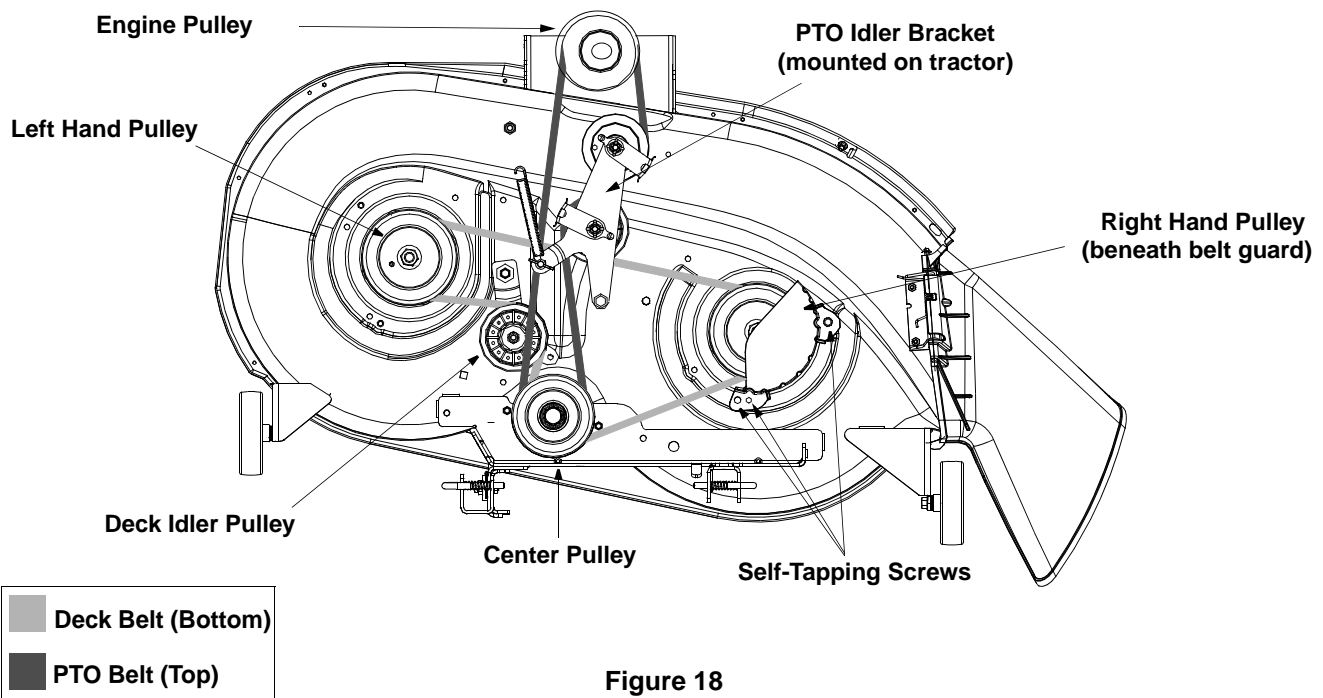
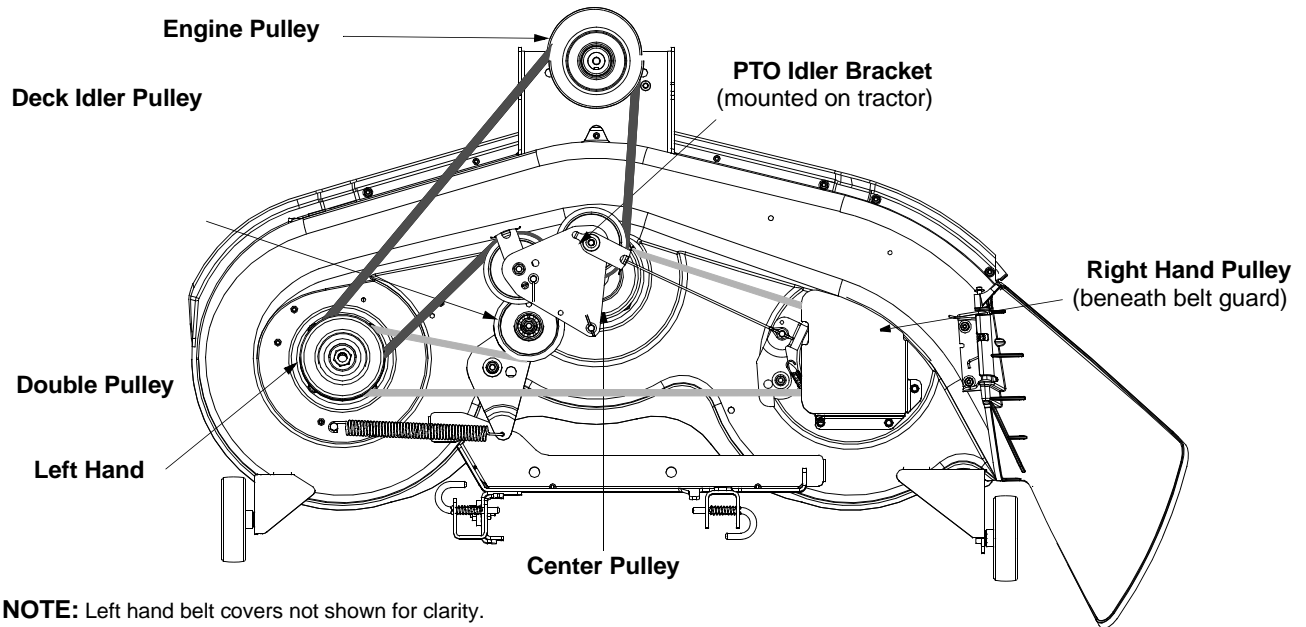

Figure 18
Figure 19
2. Take the belt guards off by removing the self-tapping screws that fasten them to the deck surface. See Figure 18 & Figure 19 (as the case may be) for location of the screws.
7. Route the new belts as in Figure 18 & Figure 19. Remount belt guards removed earlier.